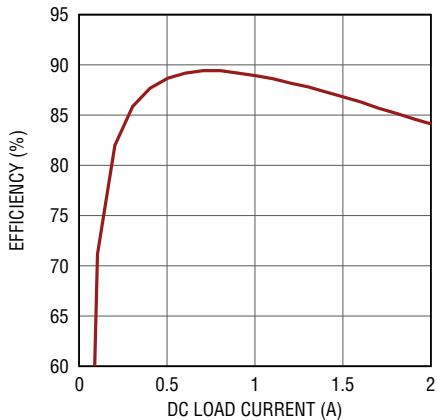

Figure 3. Efficiency vs. Load Current at $V_{IN} = 3.3V$, $V_{OUT1} = 1.2V$, $f_{SW} = 2MHz$
1. When measuring the output or input voltage ripple, do not use the long ground lead on the oscilloscope probe. See Figure 3 for the proper scope probe technique. Short, stiff leads need to be soldered to the (+) and (–) terminals of an output capacitor. The probe's ground ring needs to touch the (–) lead and the probe tip needs to touch the (+) lead.